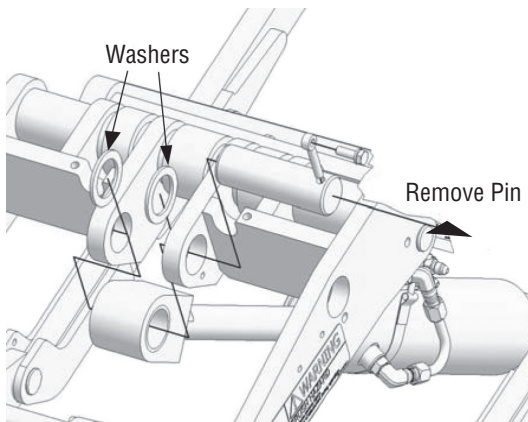

Figure 6-4, Cylinder Removal
6. Tap out cylinder pivot pins from the side opposite the eyebolts. The end of the pivot pin with the eyebolt hole should never pass through the cylinder end. Support the cylinder (weight: 30 lbs/13.6 kg) to avoid possible injury when the pins are removed. (Figure 6-4)